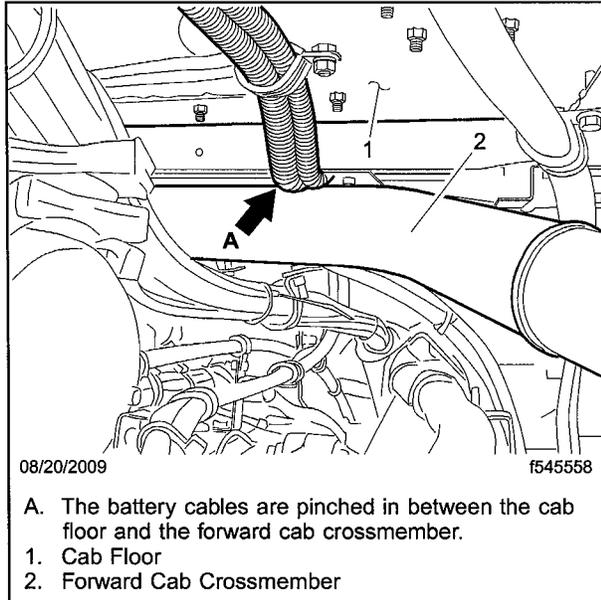

Fig. 1, Incorrect Cable Installation
4. Inspect the battery cables. On affected vehicles, the battery cable is routed on the inboard side of the windshield washer bottle. See **Fig. 1**.